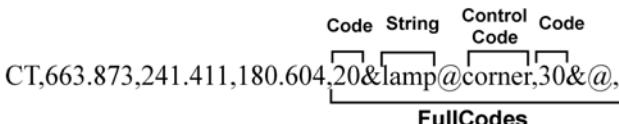

Figure 4-7. Example of Coordinate File Format Including Codes, String and Control Code
- For fullcodes that contain codes, strings and control codes, use the string code shown in Figure 4-7.